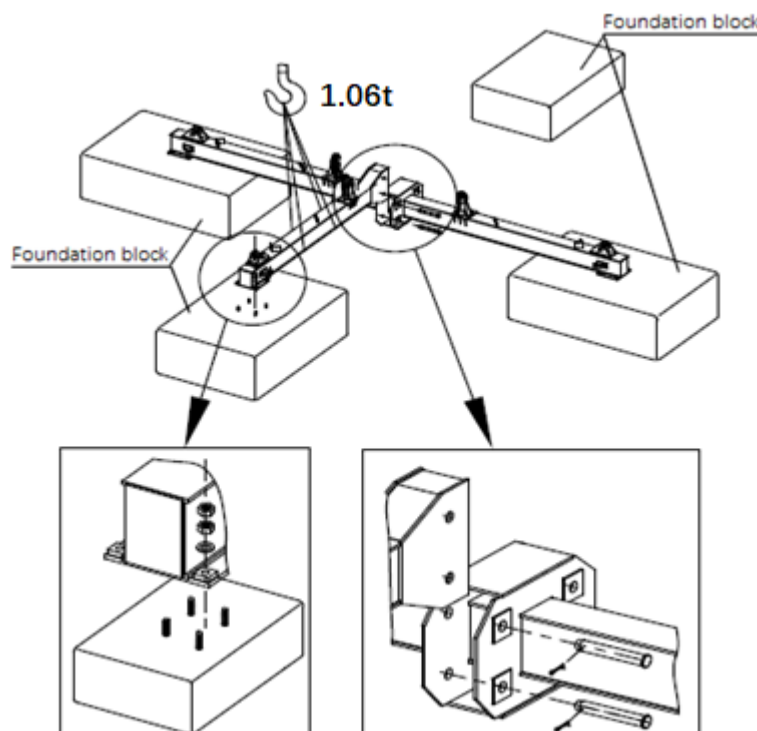

Fig. 4-60 Installing the short cross beam
- See Fig. 4-60, place one end of the short cross beam on the foundation and fixed with embedded bolts, which connect the other end with the long cross beam with 2 pins $\Phi 60 \times 430$. Install another short cross beam in the same way.